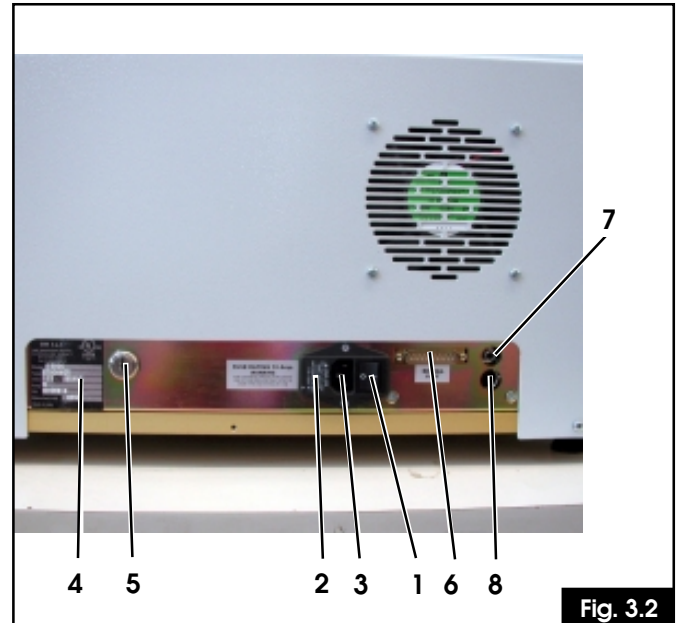

Fig. 3.2
The installation of the **A.E.S. 1700** system is easily done. Examine the rear control panel of the cover, (Ref figure 3.2) there are all the sockets for the various connections. Continue as follows:
- Having done the above mentioned operations the machine is ready to work so flip the switch (fig 3.2) to 1. This will switch the machine on.